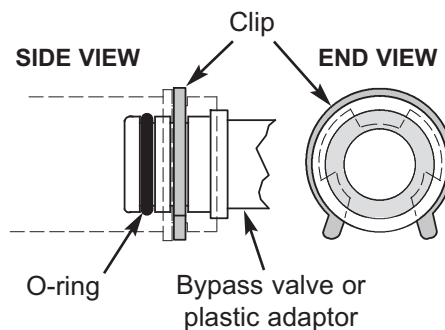

FIG. 8
- Snap the two large plastic clips in place on the inlet and outlet ports, from the top, down (See Figure 8). Make sure they snap into place. Pull on the bypass valve, or installation adaptors, to make sure they are held securely in place.